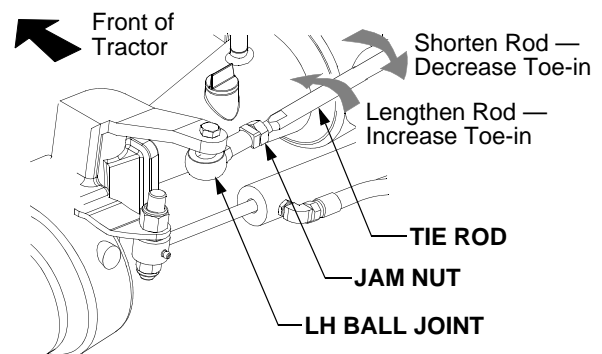

Figure 31
- Loosen the jam nuts at both the LH and RH ball joints. See Figure 31.
Rearward to shorten the tie rod and decrease the toe-in. See Figure 31.
Forward to lengthen the tie rod and increase the toe-in. See Figure 31.